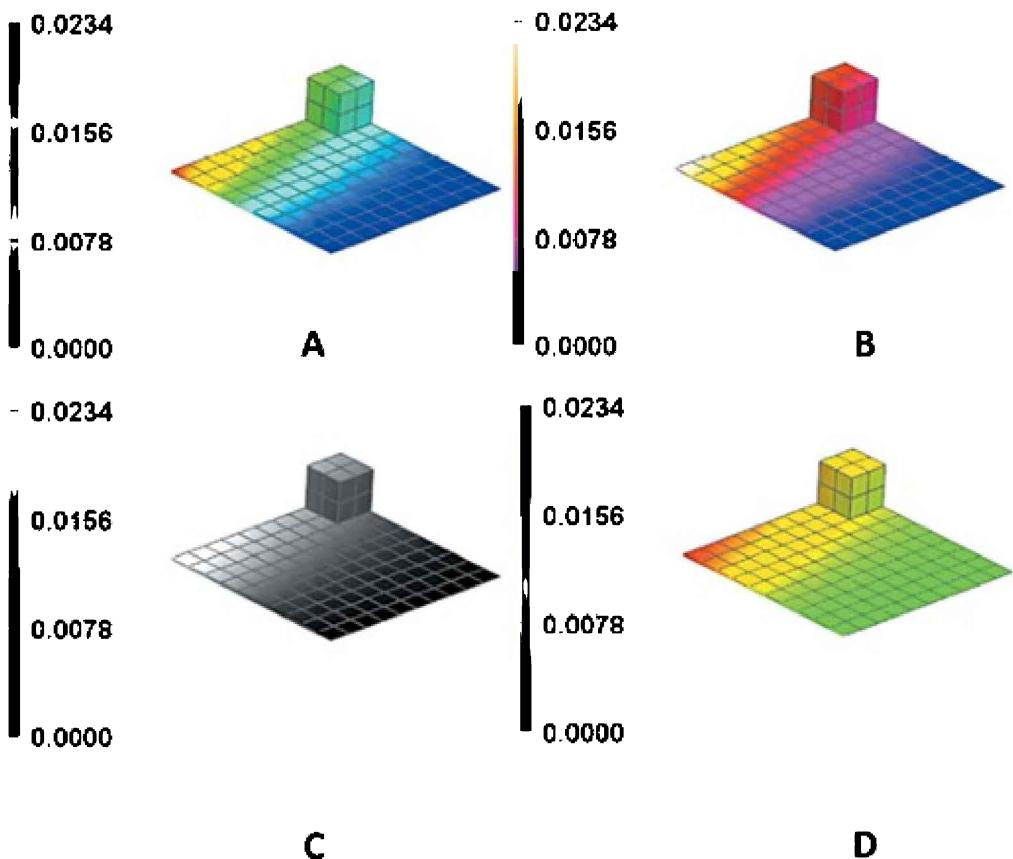

Figure 5.32. Palette spectra.
- The *Spectrum* option that defines the palette type (Figure 5.32): *Structural* for deformable solid body mechanics problems, *Thermal* for thermal problems, *Grayscale* for display in shades of gray, *Stoplight* for three-color grading (the colours of traffic lights: green,